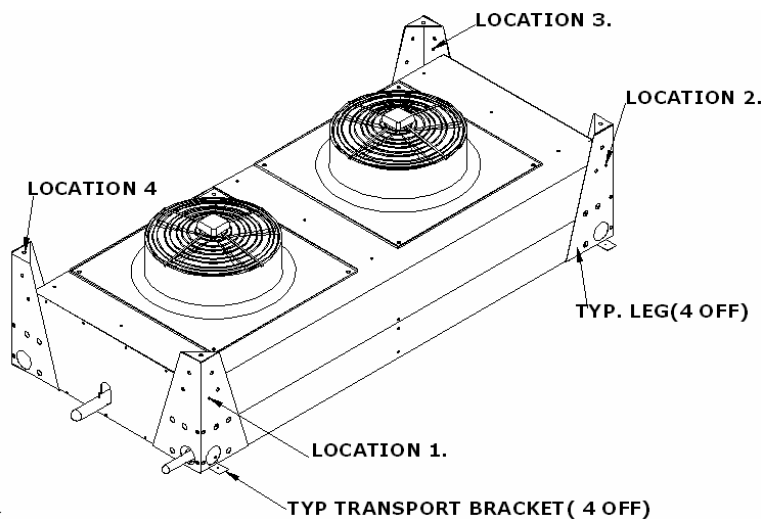

Figure: 1.
- Each condenser is fitted with four legs and four transport brackets as shown in **Figure 1**, all of which need to be removed. The transport brackets can be discarded.
- Each condenser is fitted with four legs and four transport brackets as shown in **Figure 1**. Remove transport brackets in locations 1 and 2, refer **Figure 1**, and replace the existing leg mounting bolts. The legs and transport brackets in locations 3 and 4 can be removed and discarded. Please ensure the fixing bolts are refitted to the condenser.